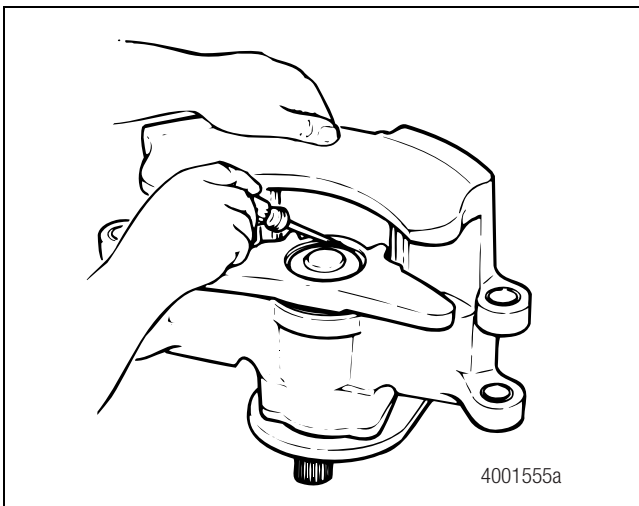

Figure 5.1
1. Use a pointed tool to remove the snap ring from the piston bore. Figure 5.1.